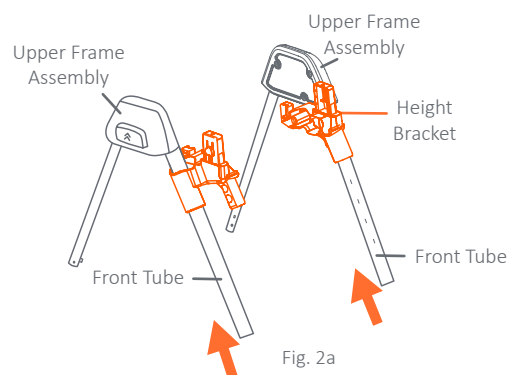

Fig. 2a
- 2) • **NOTE:** The front tube is easily distinguished from the rear tube by the array of holes located on the backside of the front tube. Insert the left and right sides Height bracket into the front tube of the Upper Frame Assembly as shown in (Fig. 2a).